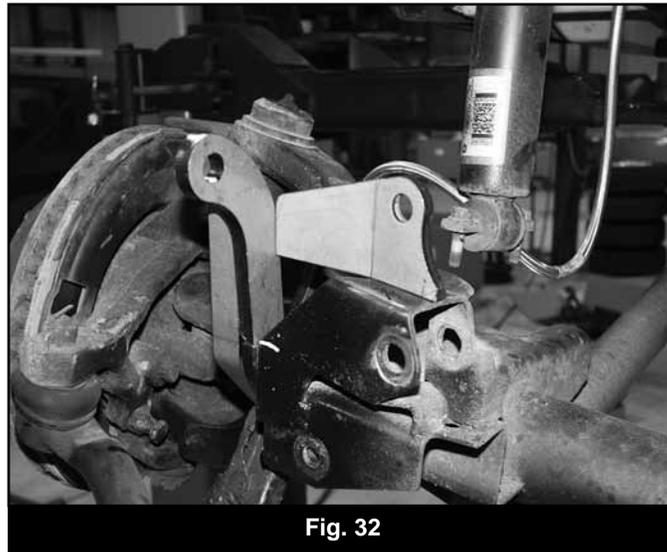

Fig. 30
72. With the link mount parts correctly in place finish weld the components to the axle. Weld all around the point where the original mount meets the new mounts as well as the full length of the gusset where it meets the new and original link mounts (Fig 30). Note: Weld the back side of the gusset for best weld penetration and aesthetics.